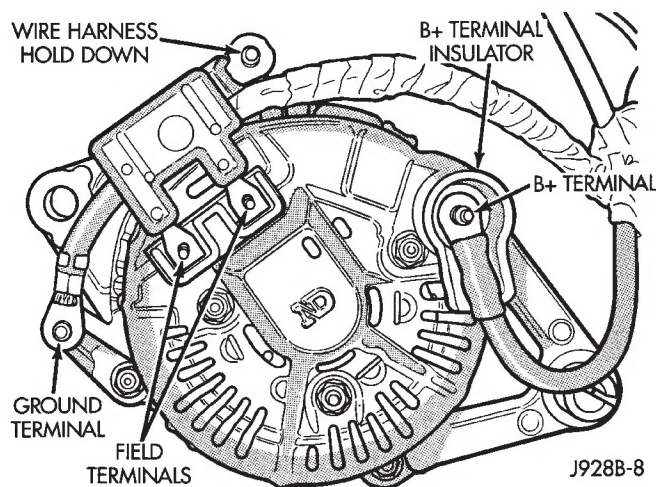

Fig. 17 Remove/Install Generator Connector
- (1) Disconnect battery negative cable.
- (2) Remove generator drive belt. Refer to Group 7 - Cooling System for procedure.
- (3) Remove generator battery output terminal nut, 2 field terminal nuts, ground and harness holddown nuts (Fig. 17). Remove wire connector assembly.
- (4) Remove 2 generator mounting bolts and remove generator from vehicle.
- (5) Reverse removal procedure to install. Torque generator hardware as shown in Specifications.
- (3) Raise and support vehicle.
- (4) Remove generator battery output terminal nut, 2 field terminal nuts, ground and harness holddown nuts (Fig. 17). Remove wire connector assembly.
- (5) Remove 2 generator mounting bolts and remove generator from vehicle.
- (6) Reverse removal procedure to install. Torque generator hardware as shown in Specifications.
- (3) Unplug electric cooling fan wiring connector and pull fan unit up and out of vehicle.
- (4) Remove generator drive belt. Refer to Group 7 - Cooling System for procedure.
- (5) Remove generator mounting bolts.
- (6) Position generator to gain access to all of the wire connectors. Remove generator battery output terminal nut, 2 field terminal nuts, ground and harness holddown nuts (Fig. 17). Remove wire connector assembly.
- (7) Remove generator from vehicle.
- (8) Reverse removal procedure to install. Torque generator hardware as shown in Specifications.